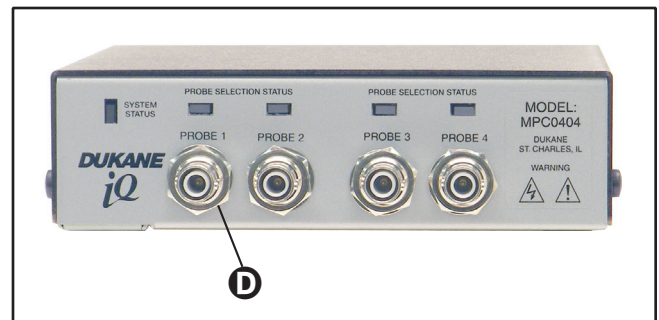

Figure 3-6 MPC Module Front Connectors
Refer to Figure 3-6 below. Complete these connections.
1. Probe Cable(s) - Beginning with **PROBE 1**, connect one end of the cable (See Table 3-III below.) to the U/S connector on the MPC's front panel - **D** in Figure 3-6. Connect the other end of the cable to the corresponding probe for your specific welding application.